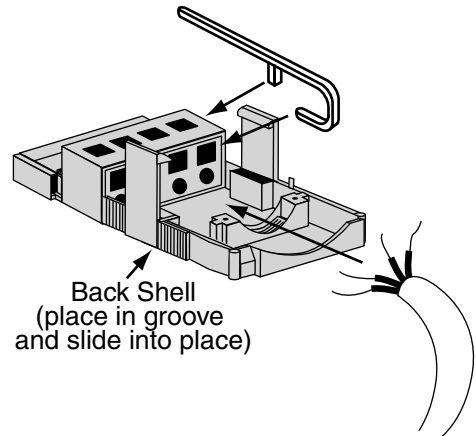

Figure 3
- ① Strip outer wire sheathing back 1", then strip insulation of individual wires back 3/8".
- ② Slide back shell onto plug (see Fig. 3).
- ③ Place plastic tool as shown in Figure 3 to open spring-loaded terminal.